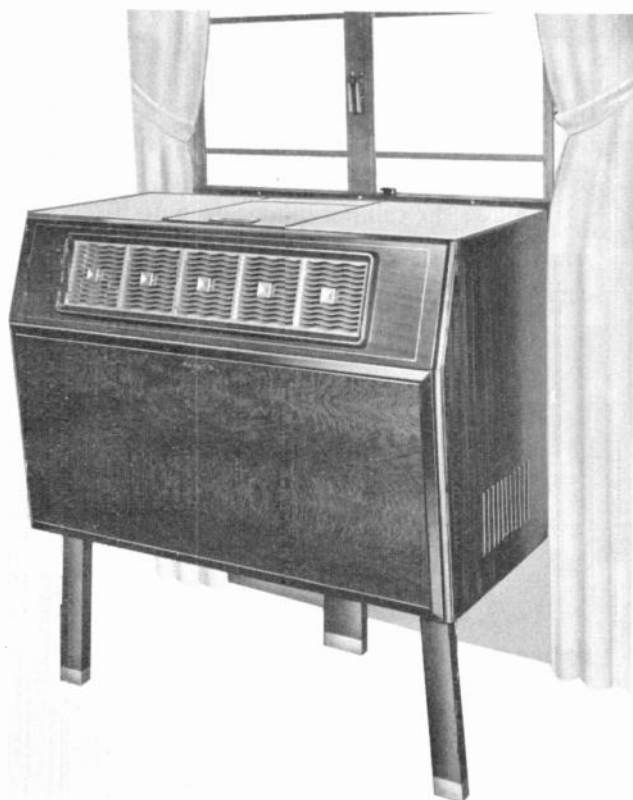

FIGURE 1
In order to be sure that the input impedance of the 'scope remains constant with respect to the circuit across which the voltage is to be measured, we recommend placing the 'scope input across the primary of the output transformer (see points "A" and "B" on fig. 1) and varying the input location of the signal from the generator. This obviates the necessity of using a detector probe through the R.F. and I.F. sections.
*Step 1*—The signal generator should be set on "audio" and also applied directly across points A and B with the 'scope attenuator on 1 (for accuracy, it is recommended that a cross-hatched 'scope overlay of 10 lines to the inch be used). Vary the signal generator output to get a vertical deflection of an inch or so, note the exact deflection in lines covered, and then place the generator output on the grid of the 6C4 phase inverter (point "C" in fig. 1). Change the 'scope attenuator to 10 or 100 as necessary to bring the sweep within the limits of the CRT. Note the deflection, place this quantity over the number of lines first noted and multiply by the setting of the attenuator. The result will be the gain of the phase inverter and the push-pull amplification of the two 6AQ5 tubes. If we were checking a set employing single output, we could check that stage separately, but checking push-pull is not practical as the output from the two tubes is equal to more than twice that of one tube and may range as high as three times in a class "A" amplifier.